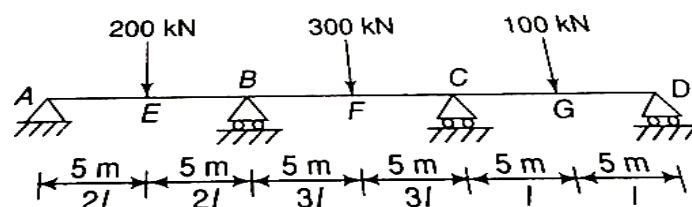

Figure 3.3
3. Analyze the continuous beam shown in Figure 3.3 by Flexibility method. The downward settlement of supports B and C in kN-m are $1500/EI$ and $750/EI$.